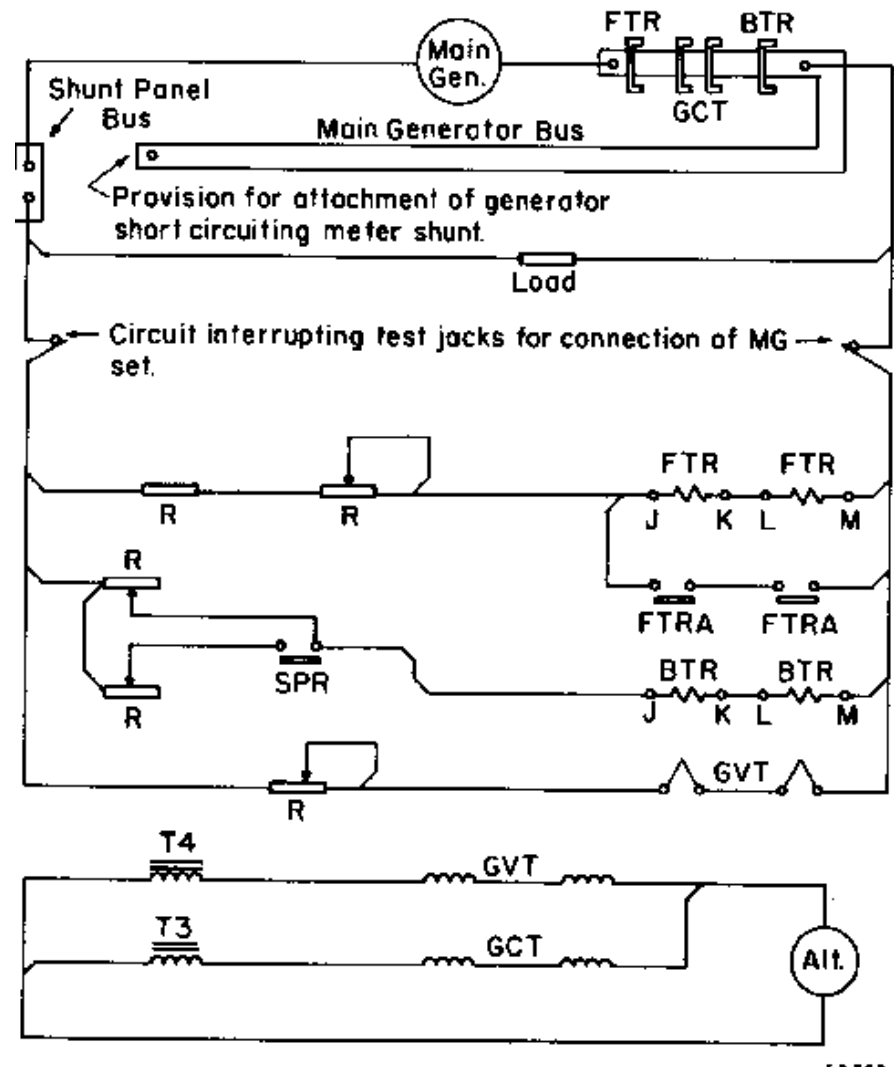
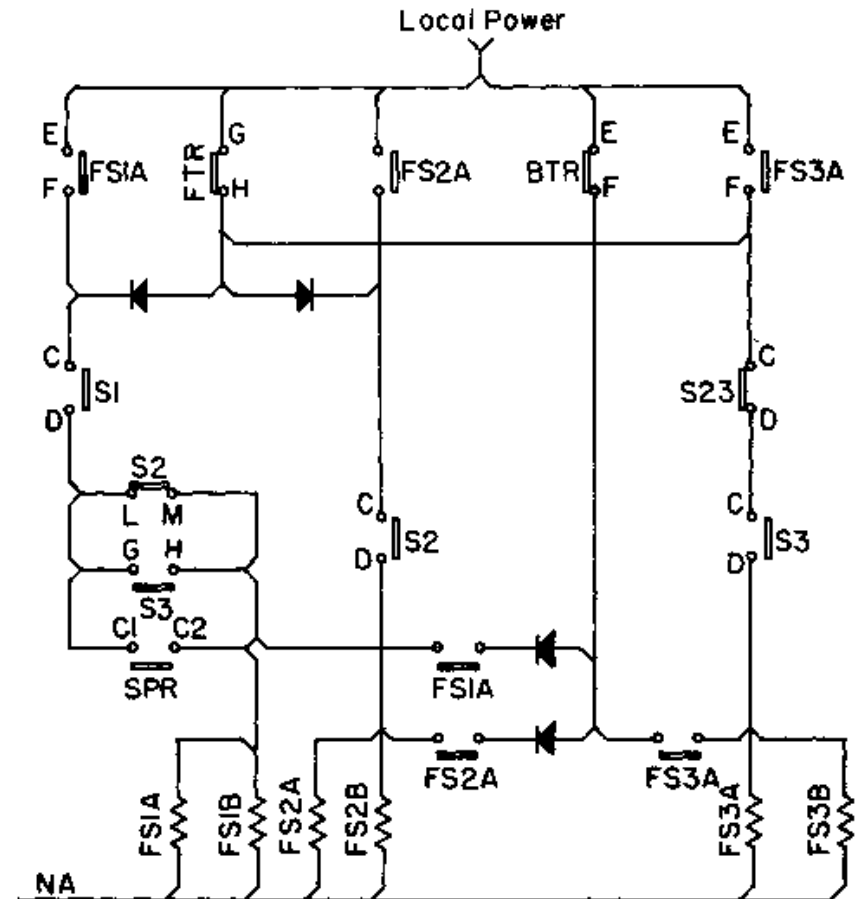
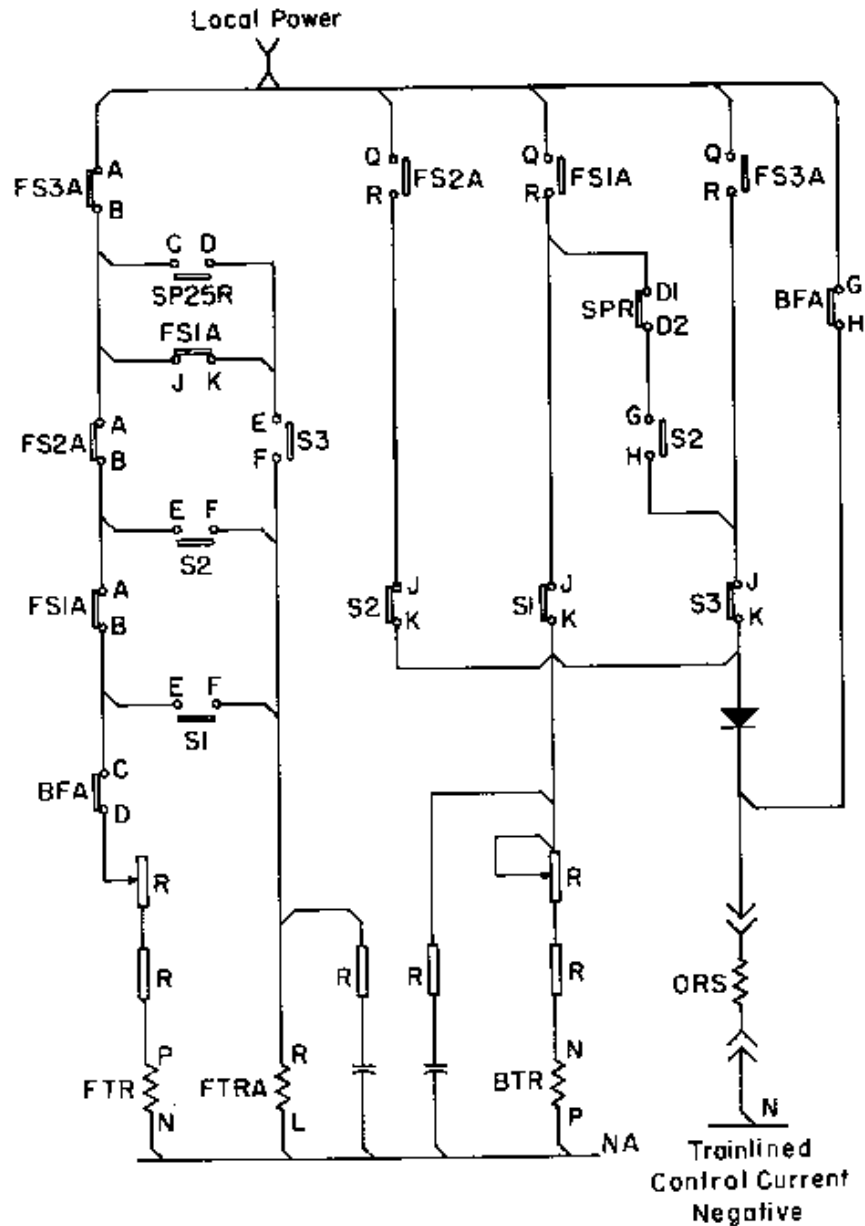

Fig. 6-9 - Generator Current And Voltage Sensing Circuits
Fig. 6-13 - Motor Field Shunting Circuits
Fig. 6-14 - Transition Relay Low Voltage Coil Circuits
GENERATOR CURRENT AND VOLTAGE SENSING CIRCUITS, Fig. 6-9
4. The C-D contacts of S1, Fig. 6-13, close, but since FTR G-H contacts have opened, the circuits to field shunting contactors FS1A & B are not complete. The coils of FS1A & B will not be energized until FTR is knocked down.
5. Knockdown of FTR is brought about by pickup of the E -F contacts of S1, Fig. 6-14, energizing the FTRA coil. FTRA contacts short out the J-K and L-M coils of FTR, Fig. 6-9 and the FTR relay drops out.
6. The G-H contacts of FTR, Fig. 6-13, closing allows control current to flow through the closed C-D contacts of S1 and the normally closed L-M contacts of S2. The coils of field shunting contactors FS1A and FS1B are energized. Pickup of FS1A and FS1B shunts approximately 21% of motor armature current around the motor fields and through the motor field shunting resistor.
7. The E-F interlock of FS1A closes to seal FS1A and FS1B in against FTR pickup. The Q-R interlock of FS1A, Fig. 6-14, closes to provide a circuit to the overriding solenoid should a malfunction prevent dropout of the field shunting contactor.
3. Contacts L-M of S2 open to de-energize field shunting contactors FS1A and FS1B, Fig. 6-13.
4. Closure of S2 E-F contacts causes FTR knockdown through pickup of FTRA, Fig. 6-14, and FS2A and FS2B are energized through G-H contacts of FTR and the C-D contacts of @2, Fig.6-13. Pickup of FS2A and FS2B
3. Closure of S3 E-F contacts causes FTR knockdown through pickup of FTRA, Fig. 6-14, and FS1A and FS1B are energized through C-D contacts of S1 and now closed G-H contacts of S3. Since FS2A and FS2B are already picked up, this places two resistors in parallel with the motor fields and increases motor field shunt to approximately 47%. System voltage drops slightly.
3. Contacts J1-J2 and N1-N2 of SPR opening drops out S1, S2, and S3. S1 and S2 contacts C-D opening drop out FS1A & B and FS2A & B, Fig. 6-13.
4. Contacts F1-F2 of SPR opening, Fig. 6-4, drop out the shunt field contactor SF. Interlock A-B of SF opening drops out battery field auxiliary contactor BFA. Interlock G-H of BFA, Fig. 6-14, closing energizes the overriding solenoid in the engine, and the load regulator is driven toward minimum field position.
5. Dropout of SF and BFA bring about the decay of generator excitation. The closure of BFA interlock C-D, Fig. 6-14, recalibrates FTR relay dropout, and when voltage drops, FTR drops out.
3. Pickup of S1 and S2 contacts E -F energizes the FTRA coil, Fig. 6-14. FTRA contacts short out the voltage coils of FTR
And the FTR relay drops out, Fig. 6-9. FTR contacts G-H close, energizing FS1A & B, and FS2A & B through closed C-D contacts of S1 and S2, Fig. 6-13. SPR contacts C1-C2 being closed complete the circuit to FS1A & B. Motor fields are shunted about 47% and system voltage drops slightly.
2. Closure of FTR A-B contacts energizes S3, and the S3 E-F contacts close to complete a circuit through the now closed C-D contacts of SP25R to the coil of FTRA. FTR is knocked down, Fig. 6-14.
3. FTR knockdown energizes FS3A & B, and the E-F contacts of FS3A hold FS3A & B in against FTR pickup, Fig. 6-13. Motor fields are shunted approximately 62% and system voltage drops slightly.
3. Contacts J1-J2 of PR opening drops out S3. The C-D contacts of S3 opening drops out FS3A, and the opening of N-P interlock of FS3A drops out S1 and S2. S1 and S2 contacts C-D opening drop out FS1A & B and FS2A & B, Fig. 6-13.
4. Contacts F1-F2 of PR opening drops out the shunt field contactor SF. Interlock A-B of SF drops out battery field auxiliary contactor BFA, Fig. 6-4. Interlock C-D of SF drives the load regulator toward minimum field position, Fig. 6-14.
5. Dropout of SF and BFA brings about decay of generator excitation. The closure of BFA contacts, Fig. 6-14, recalibrates FTR dropout, and when voltage drops to approximately 500 volts, FTR drops out.
3. The C -D contacts of S1 and S2 close, Fig. 6-13, but since FTR G-H contacts are open, the field shunting contactors are not yet energized.
2. The C-D contacts of S1 and S2 open, Fig. 6-13, but the E -F contacts of BTR have closed to hold FS1A & B and FS2A & B energized. However, the J -K contacts of S1, Fig. 6-14, have closed, and current flows to the N-P coil of BTR through closed Q-R contacts of FS1A.
3. Closure of the J-K contacts of S3 energizes the BTR N-P coil, Fig. 6-14, and BTR picks up. This breaks an FS3A holding circuit through BTR E-F contacts and FS3A L-M interlock, Fig. 6-13, and FS3A & B drop out.
4. FS3A dropping out does not de-energize S1 and S2 because BTR contacts A-B closed before the N-P interlock of FS3A dropped out. The decrease in percentage of shunt causes an increase in system voltage and BTR remains picked up even though the Q-R interlock of FS3A, Fig. 6-14, has opened. A further decrease in locomotive speed will cause BTR to drop out again.
5. With the locomotive operating in the first step of series-parallel shunt, dropout of BTR will de-energize step relays S1 and S2, and their C-D contacts open, Fig. 6-13. However, BTR contacts E-F
6. Closure of the J-K contacts of S1 and S2 energizes the BTR N-P coil, Fig. 6-14, and BTR picks up. This breaks the FS1 and FS2 holding circuit through BTR contacts E-F and FS1 and FS2 L-M interlocks, Fig. 6-13, and FS1A & B and FS2A & B drop out.
1. When the locomotive begins to slow down, system voltage drops and BTR drops out. The A-B contacts of BTR opening, Fig. 6-12, interrupts current flow to the magnet coil of S3. The G-H contacts of S3 open, Fig. 6-13, but FS1A & B are held energized through BTR contacts E -F and FS1 holding interlocks. However, the J-K contacts of S3 have closed and current flows to the N-P coil of BTR through Q-R of FS1A, D1-D2 of SPR, and G-H of S2, Fig. 6-14.